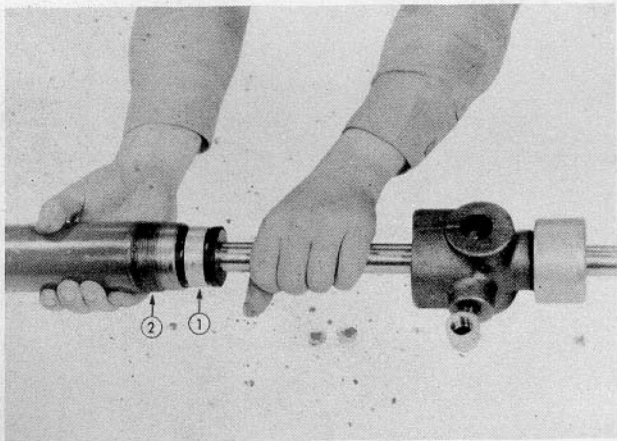

Fig. 21
- Step 14—Insert piston cup assembly (1—Fig. 21), into cylinder (2). Be careful not to damage the piston cups.